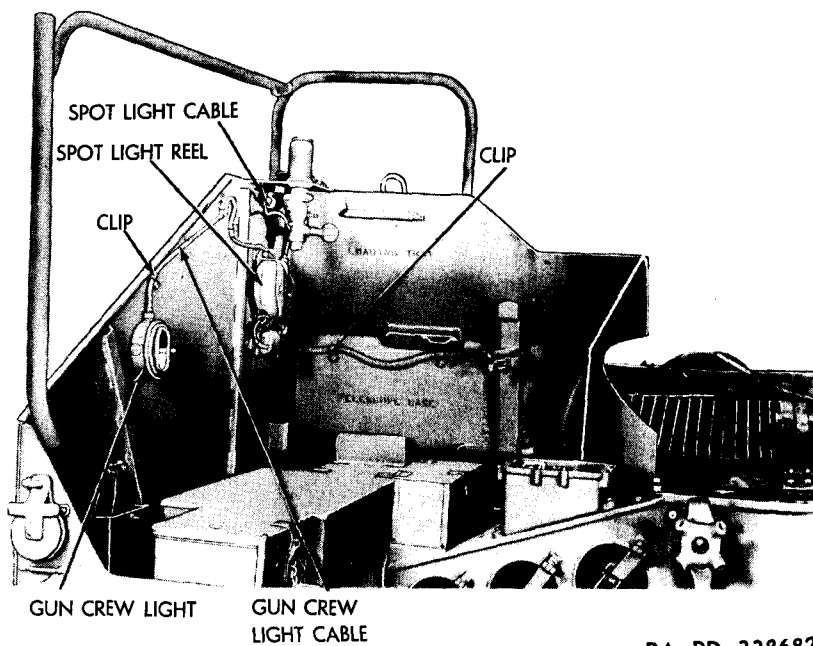

Figure 13. Gun crew light cables on left gun crew shield (M41 only).
b. PROCEDURE. (1) *Remove howitzer and mount (M41 only).* Refer to paragraph 45.
(6) *Remove howitzer elevating control relay box and electrical conduit from gun crew compartment (M41 only).* Remove screws and clips holding electrical conduit to left and right gun crew shields (fig. 13). Remove screws holding left gun crew light to gun crew shield. Disconnect spotlight cable from outlet on spotlight bracket. Remove